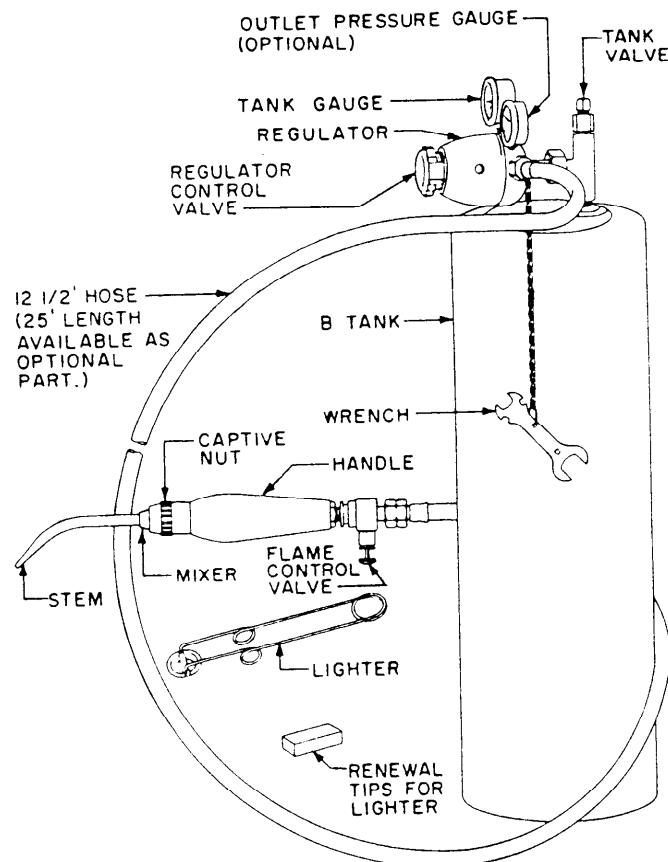

Fig. 4 - D Acetylene Torch Connected to B Tank
- 8.03 The D acetylene torch, illustrated in Fig. 4, should be adjusted as follows: